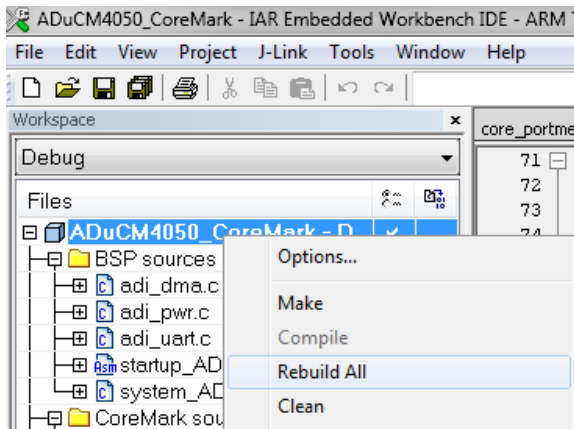

Figure 16. Building the Project
- Right click the project name and click **Rebuild All**, as shown in Figure 16. The user is then prompted to save the workspace in the .eww extension. The project must build without any errors.